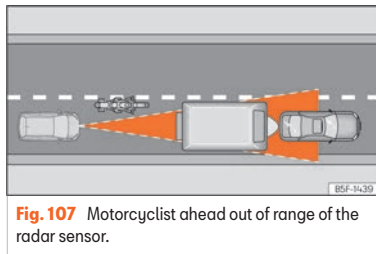

Fig. 107 Motorcyclist ahead out of range of the radar sensor.
- Vehicles that are not aligned while driving or that are outside the sensor's detection area, such as motorcycles »» **Fig. 107.**